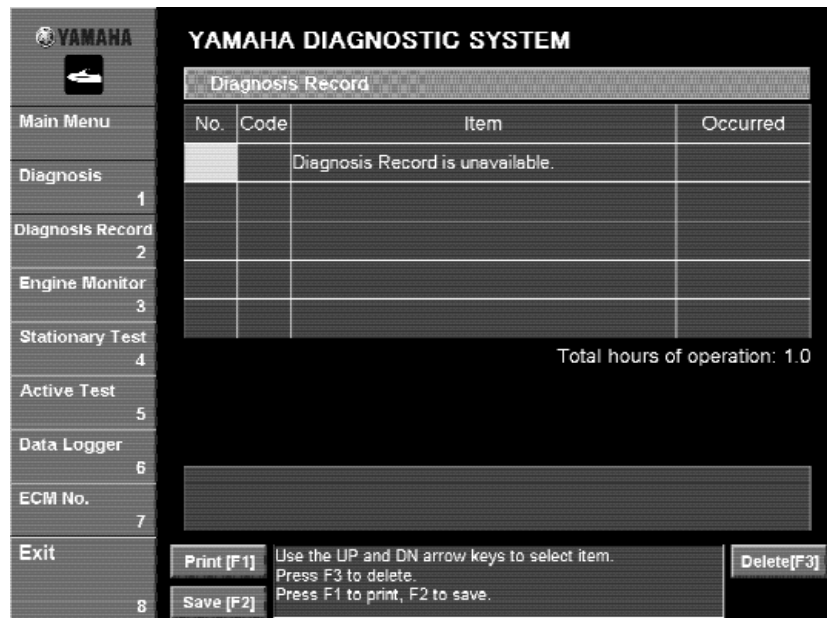
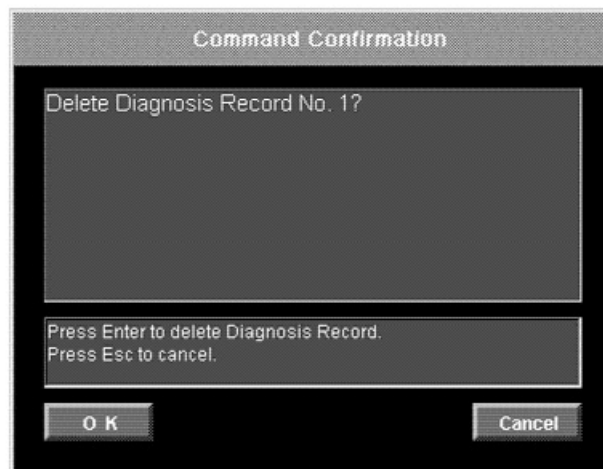

Fig. 33
Fig. 35
When a Diagnosis record is not available, "Diagnosis Record is unavailable" is displayed. (Fig. 33)
2. Click the **Delete [F3]** button or press the F3 key on your keyboard. (See fig. 33.) A confirmation message appears. (Fig. 35)
3. Click the OK button or press the Enter key on your keyboard (Fig. 35): The selected item is deleted. To cancel deleting the item, click the **Cancel** button or press the Esc key on your keyboard.